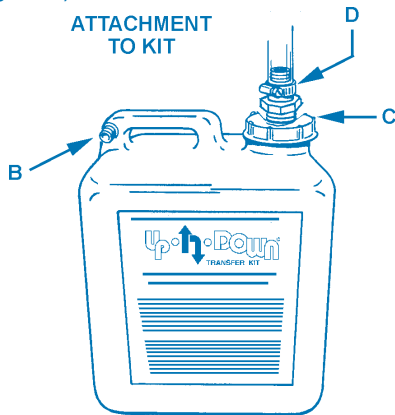

FIGURE 6
- (B) The Up-N-Down Transfer Kit must be vented during deliming to avoid collapsing the plastic container. Unscrew and save the plastic vent cap covering the plastic membrane located at the side of the kit handle. Pierce or cut out the membrane being careful not to damage the threads so that the vent cap can be replaced after the kit is washed out when deliming is completed. (If container does not have vent cap in handle, drill a 3/16" hole through top of handle and install stainless steel screw). Remove screw during deliming. (Figure 6)
- (C) Cut out the plastic membrane located in the 3/4" I. P. T. opening which is the center of the threaded cap located at the top of the kit. Be careful not to damage the threads since this opening is used for connecting the short plastic male adapter insert fitting for deliming and also for sealing the container with the 3/4" plastic plug for storage after washing out the kit. (Figure 6)
- (D) Install the short plastic male adapter insert fitting into the 3/4" I. P. T. opening of the screw cap at the top of the kit after applying Teflon tape or paste to the threads. Tighten firmly by hand, use wrench or adjustable pliers to check for secure connection. (Figure 6)
- 12. Place loose hose clamp at other end of the 3' length of 3/4" plastic tubing and push tubing over barbed section of the short plastic male adapter insert fitting at the 3/4" threaded cap at top of kit. Tighten hose clamp to secure connection. (Figure 6) **NOTE:** Check to make certain all connections are secure at both heater and kit, kit handle is vented and relief valve on heater has been removed. Remember, do not reinstall relief valve until deliming is completed, heater has been flushed and condition of relief valve has been checked.